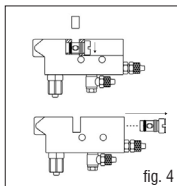

fig. 4
- 7) Remove the protective plastic sleeve with a screwdriver and unscrew and remove the sleeve from the valve body. (see Fig. 4)